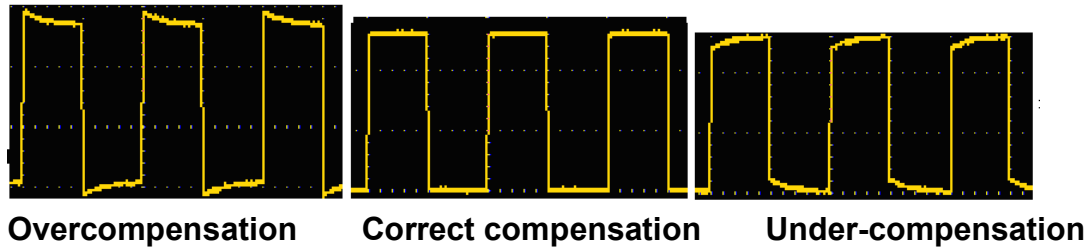
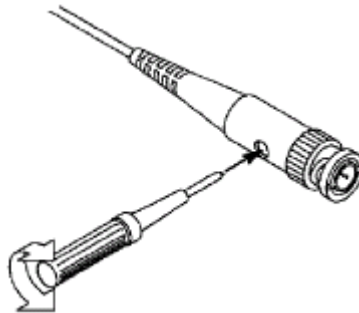

Figure 3-5: Display Waveform of Probe Compensation
Figure 3-6: Probe Adjustment
2. Check the displayed waveform and adjust the probe until the compensation is correct. See Figure 3-5 and Figure 3-6.